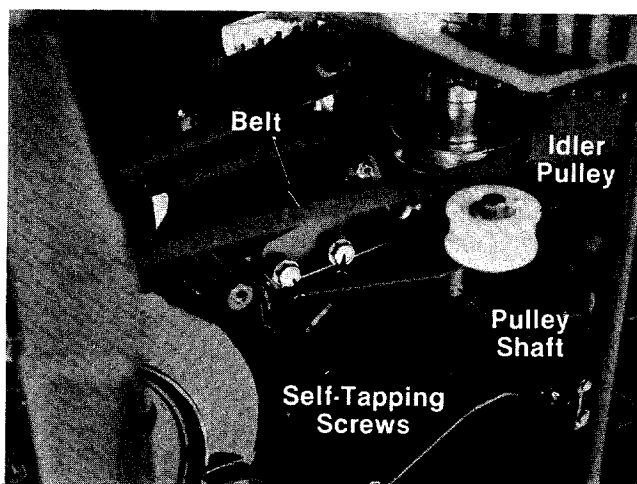

FIGURE 26.
7. Remove the two self-tapping screws which hold the support bracket and idler bracket to the deck. See figure 26. A 7/16" wrench is required.
8. Slide the support bracket and idler bracket (with idler pulley attached) off pulley shaft. See figures 26 and 27.